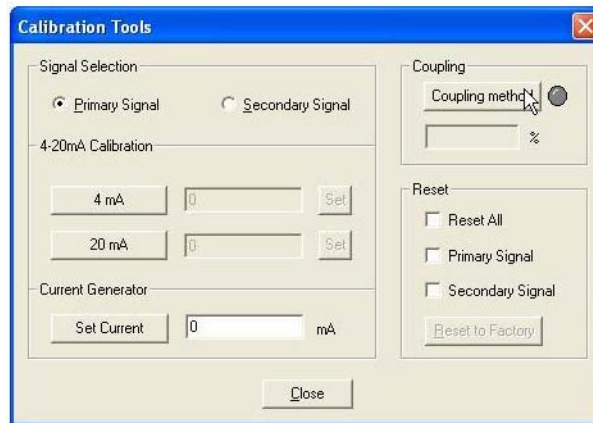

Figure 238 Starting Coupling
3. Click **Coupling method** (Figure 238).